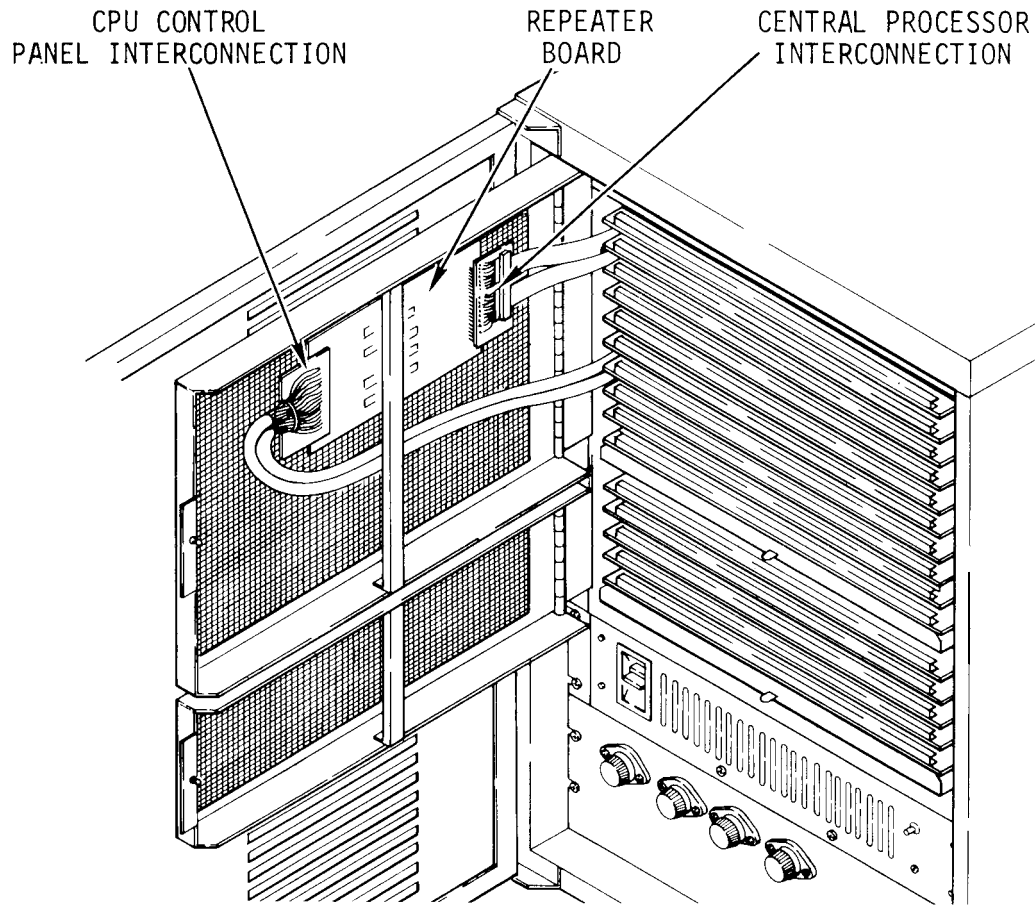

Figure 1-7. CPU Repeater Board
C. Repeater Board. The repeater board (fig. 1-7) is mounted on the door of the CPU cabinet. It is the connection between the central processor (CP) on the megabus and the CPU control panel.